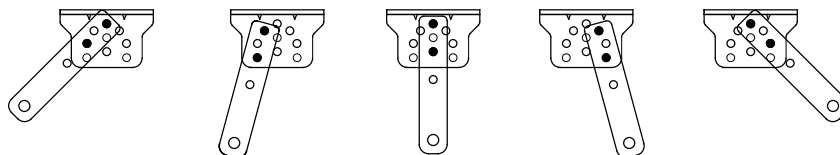

Figure 5
2. The connecting bracket and the wall bracket can be connected according to different conditions, please refer to figure 5.